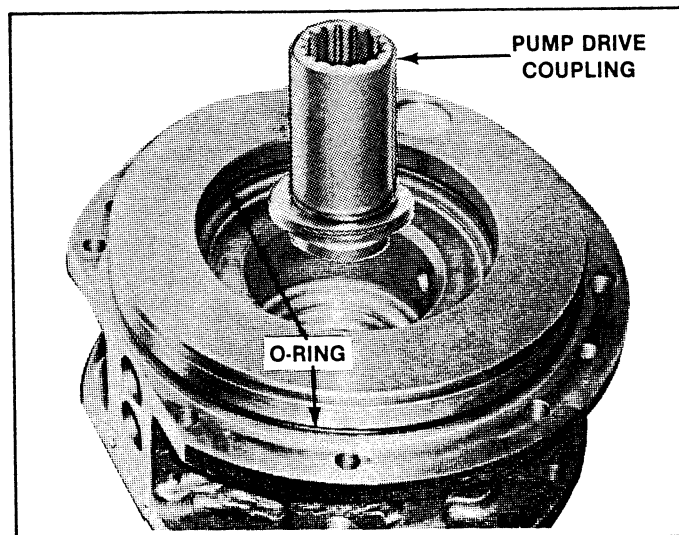

Figure 10-2. Forward Shaft Collector (Pump Adapter).
4. Install new O-rings (Figure 12-1, 37 and 38). See Figure 10-2.